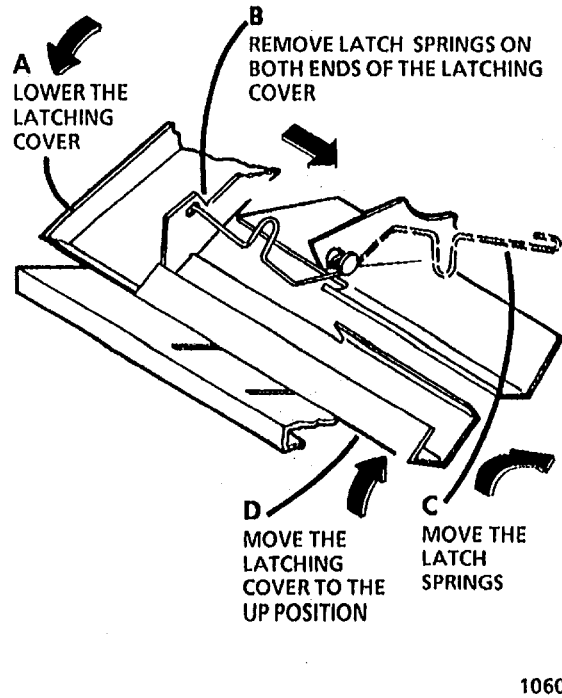

Figure 2. Removing the Latch Springs
4. (Figure 2): Remove the latch springs from each side of the latching cover.